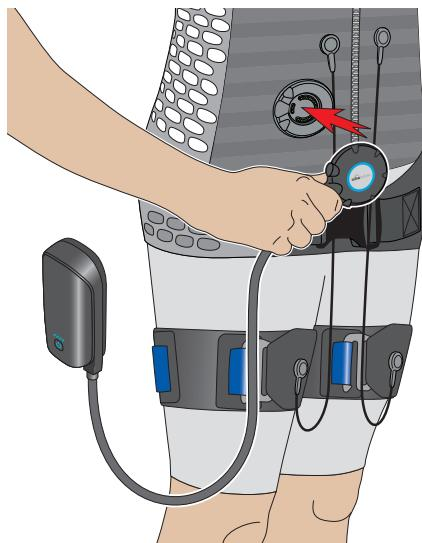

Fig. 52: Connecting
**25.** ► Connect the cable of the i-body® connect wireless to the magnetic connector of the i-body® (Fig. 52). See the “i-body® connect wireless” manual for further information.